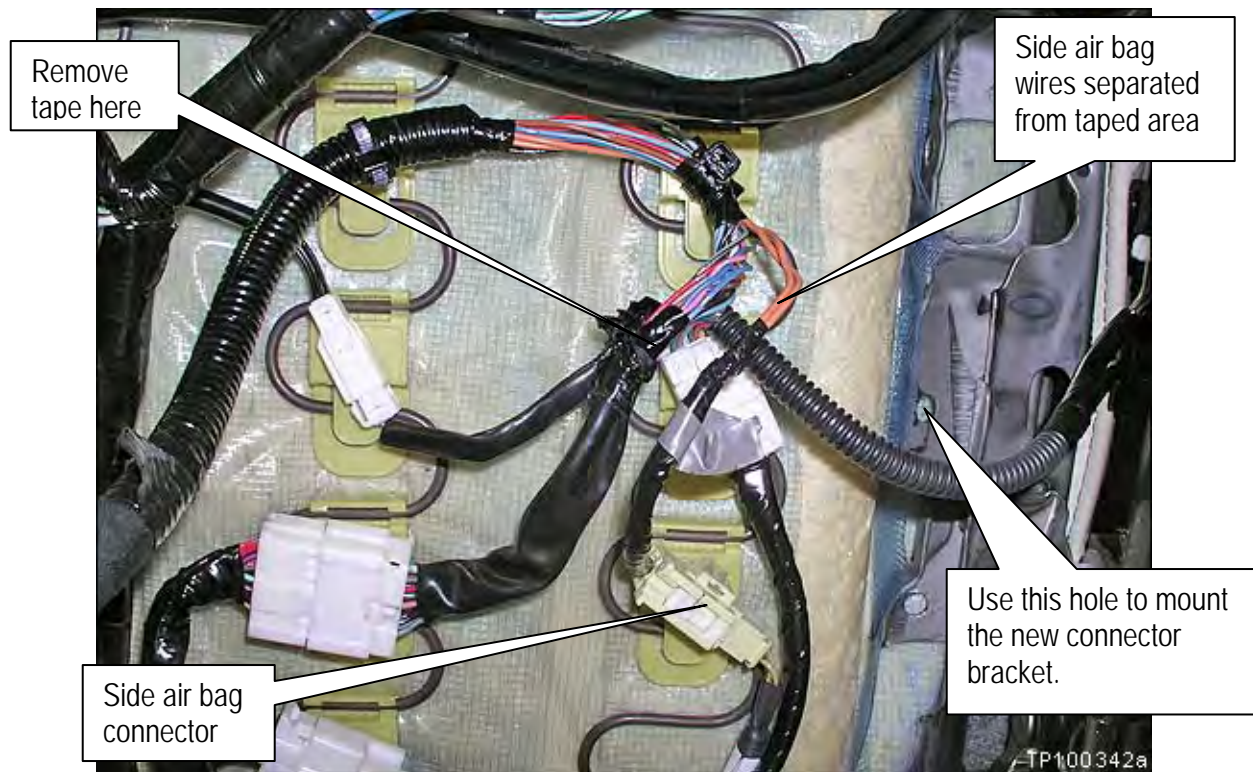

Figure 1a
- Figures 1a through 10a are used for both the driver seat and the front passenger power seat.
1. Look under the seat and locate the harness and connectors shown in Figure 1a.
2. Remove tape from the area shown in Figure 1a, just enough to separate the Side Air Bag (SAB) wires.